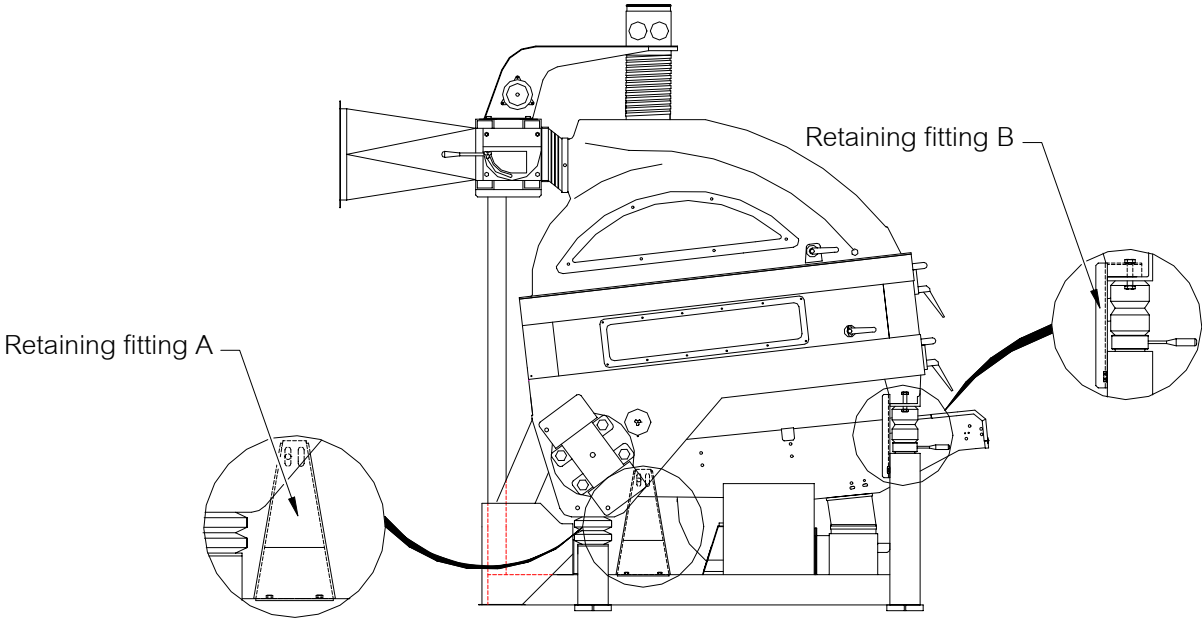

Fig. 6-3
- (1) Use four eye bolts for transferring installation the machine.
- (2) Remove shipment retaining fittings A and B. (see Fig. 6-3)
- (3) Confirm the machine horizontally.
- (4) Retain the machine on the frame (or floor).
- (5) Fit the suction ducts on the feeding gate and discharge gate, and route the piping.
- (6) Fabricate the stone collecting box to suit the installed conditions.
- (7) Connect the wiring. Ensure that the machine is properly grounded.
- (8) Check for any tools or materials remaining inside the machine.
- (9) Power on the machine, and check the rotational directions of motors.
- (10) Confirm that the tightening torque of the motor retaining bolts is $90 \text{ N} \cdot \text{m}$ ($9 \text{ kgf} \cdot \text{m}$) for SGA5B-T and $170 \text{ N} \cdot \text{m}$ ($17 \text{ kgf} \cdot \text{m}$) for SGA10B-T / SGA15B-T.
- (11) Confirm once again that the machine is horizontally installed.